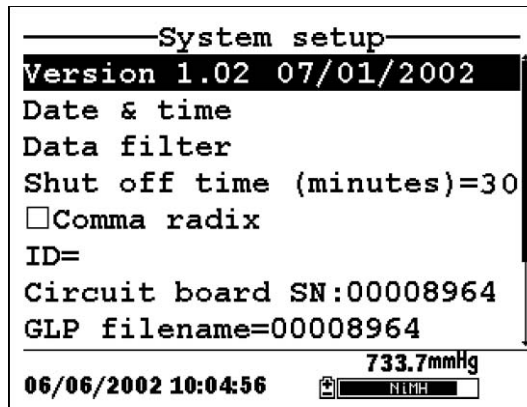

Figure 10.2 System Setup Screen
2. Use the arrow keys to highlight the **Date & time** selection on the system setup screen. See Figure 10.2 System Setup Screen.
2. Use the arrow keys to highlight the **Shutoff time** selection on the system setup screen. See Figure 10.2 System Setup Screen.
**NOTE:** To disable the automatic shutoff feature, enter a zero (0).
2. Use the arrow keys to highlight the **Comma radix** selection on the system setup screen. See Figure 10.2 System Setup Screen.
2. Use the arrow keys to highlight the **Barometer units** selection on the system setup screen. See Figure 10.2 System Setup Screen.